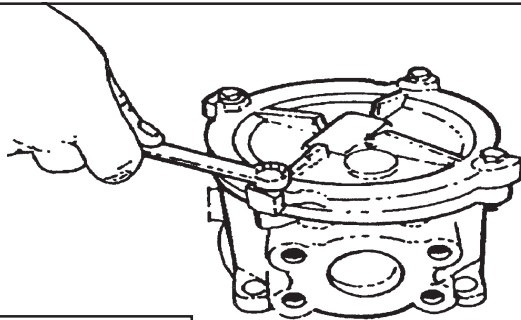

Figure 12
3. Loosen the four bolts on the filter cover. Never loosen these four bolt until you have made certain all hydraulic pressure has been relieved from system. Make certain no hydraulic cylinders are suporting any weght, work the control valves to release any pressure. Make certain tractor has been shut down and sit long enough that all pressure is relieved. Remove one bolt from the filter to aid in removing the filter cover, loosen the other three bolts. (See Figure 12 & 13)